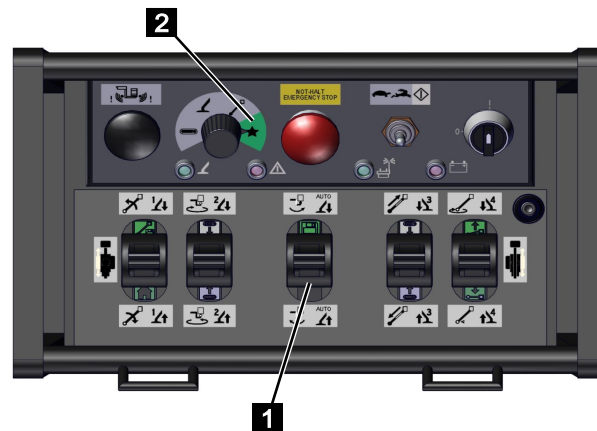

Fig. 151
3. Set the function selector on the radio control to [special function] (green) (Fig.151/2).
4. Pull the control lever (Fig.151/1) back and hold it there until the outriggers have retracted.